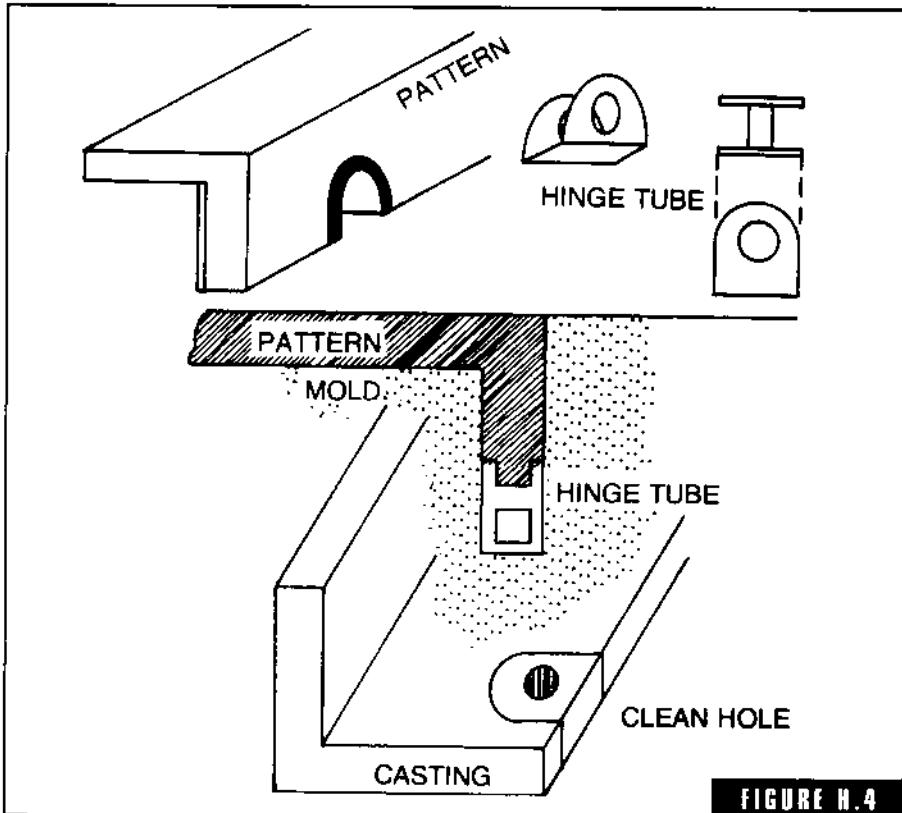

FIGURE H.4
**hinge tubes** Tin forms used to core holes through ribs and lugs. They extend into the mold perpendicular to the parting (Fig. H-4). The hinge tube is placed in a properly fitted notch in the pattern before the sand is rammed. It remains in the mold after the pattern is drawn. Clean holes, accurate for size and location, are assured.